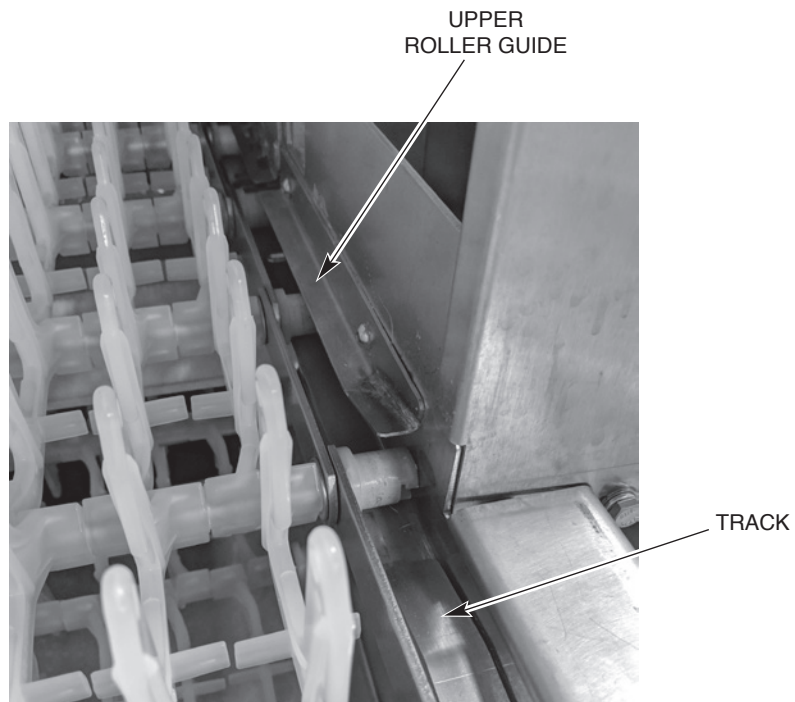

Fig. 38
- Tie a rope to the first conveyor rod. Feed the rope through the machine following the desired path of the conveyor with the flight links pointing up. The conveyor rollers must be fed between the upper roller guide and the track (Fig. 38).